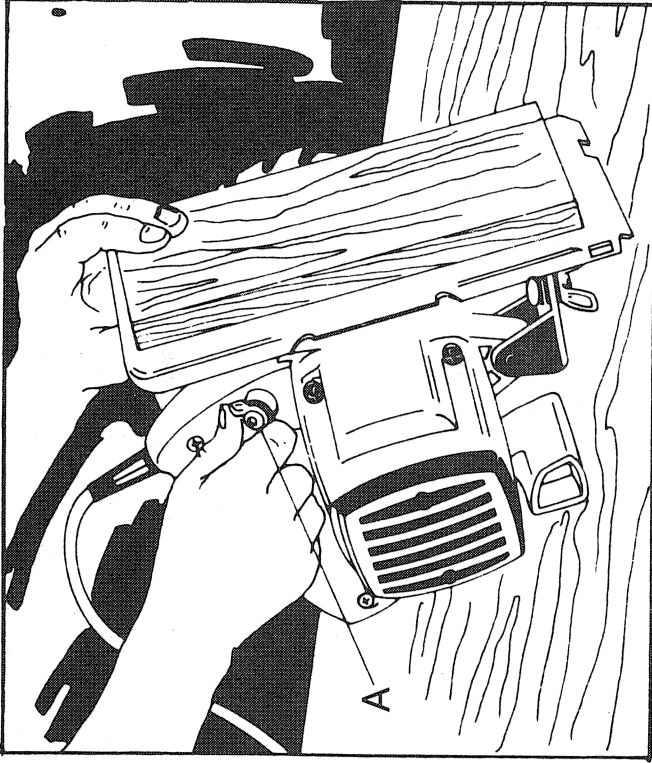

FIGURE 3
2. Place the saw in the position shown in Figure 3 and loosen depth adjustment wing nut "A."